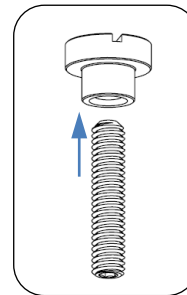

Fig. 4 – thread 1-1/2" set screw into plug
3. Thread 1-1/2" long set screw from hardware pack into plug, see Fig. 4.